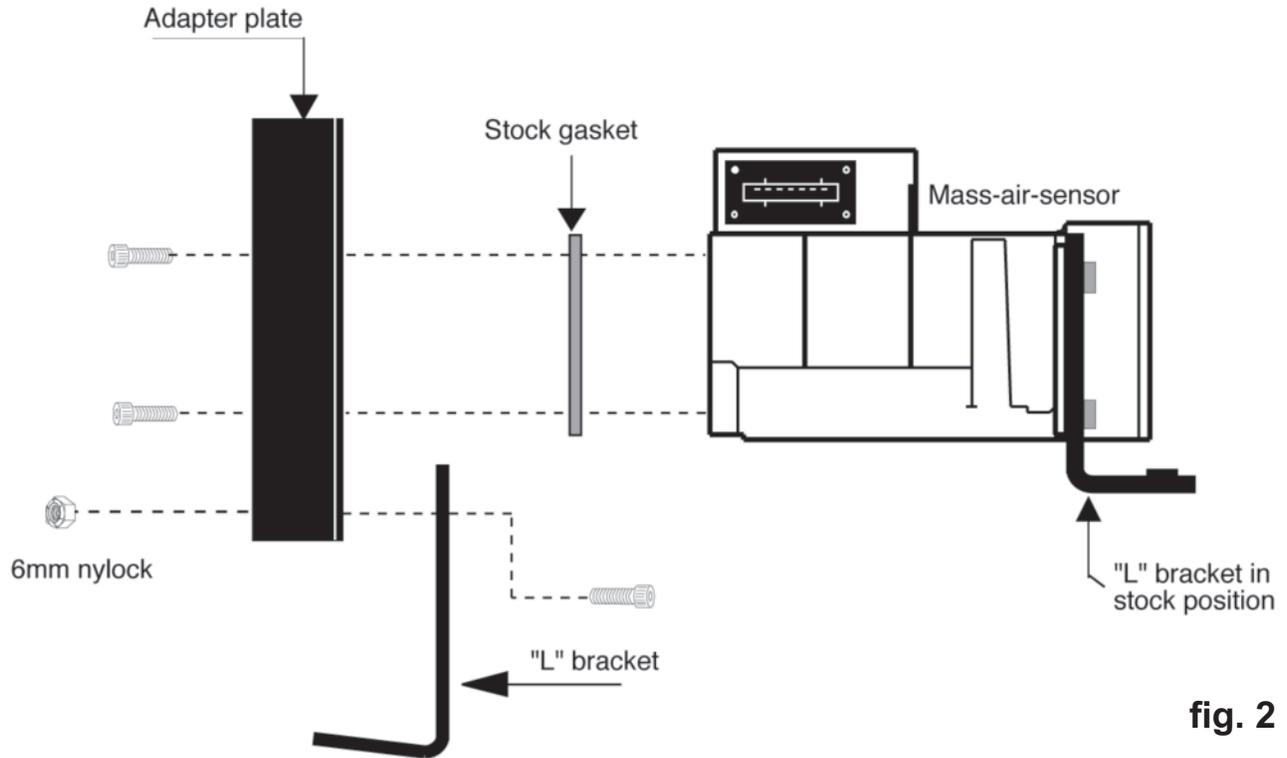

fig. 2
- 9) Install the adapter, with stock gasket, using the allen bolts provided. (see fig 2)
- 10) Install the "L" bracket on the adapter with the hardware provided. (see fig 2)